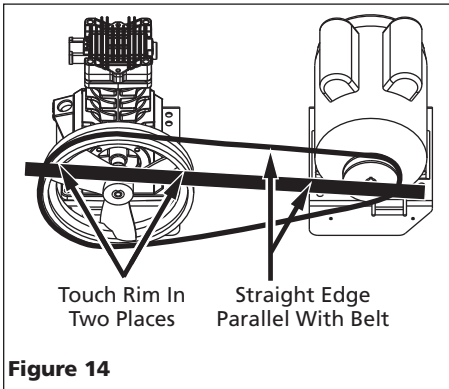

Figure 14
- e. To align belt, lay a straightedge against the face of the flywheel touching the rim at two places (See Figure 14).
- f. Adjust flywheel or motor pulley so that the belt runs parallel to the straightedge (See Figure 14).